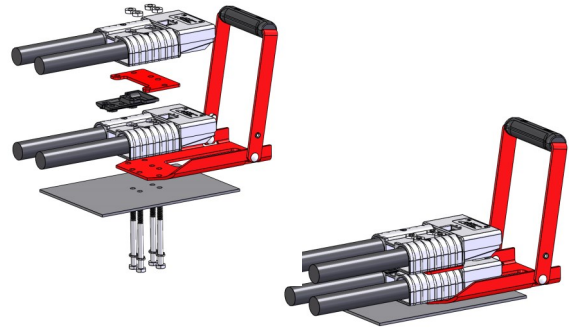

Figure 1
1. Align 2 Connector Housings, Spacer, Middle Plate and Double Stack Bracket and Handle Assembly as shown (see figure 1).
4. Secure components using (4) Hex Bolts, (4) Washers and (4) Nuts.